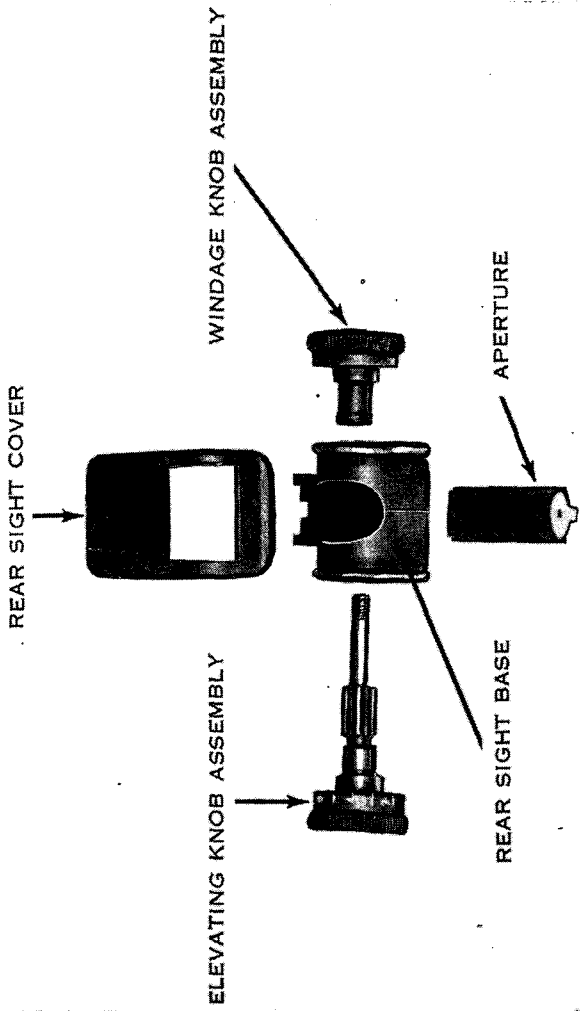

Figure 19. Parts of the modified sight.
c. The new modified rear sight eliminates the cross bar on the rear sight locking nut and the counterbored end of the pinion (fig. 19). The modified sight may be disassembled as follows: Run the aperture all the way down and record the reading, as you will use this reading when assembling the sight. Hold the elevating knob and unscrew the nut in the center of the windage knob with the forked end of the combination tool or the rim of a cartridge. You can loosen this nut but you cannot remove it, so there is no danger of losing it. Withdraw the elevating knob to the left, removing the elevating knob assembly, including the pinion shaft, elevating knob and screw, and other parts, all of which are made into one piece and cannot be separated. (Like the rear